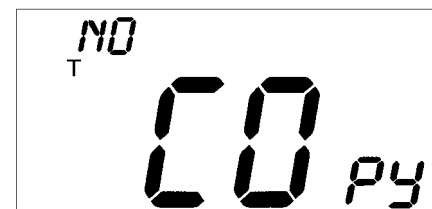

Fig. 7 — Copy Command Display
11. The Copy command can be used to copy the previous day’s schedule if the schedules are the same. The copy command becomes available after all the occupied periods are programmed in a day. Use the UP ARROW to change the copy command to YES. Use the DOWN ARROW to change the copy command to NO. Press the Mode button when the choice has been made. See Fig. 7.